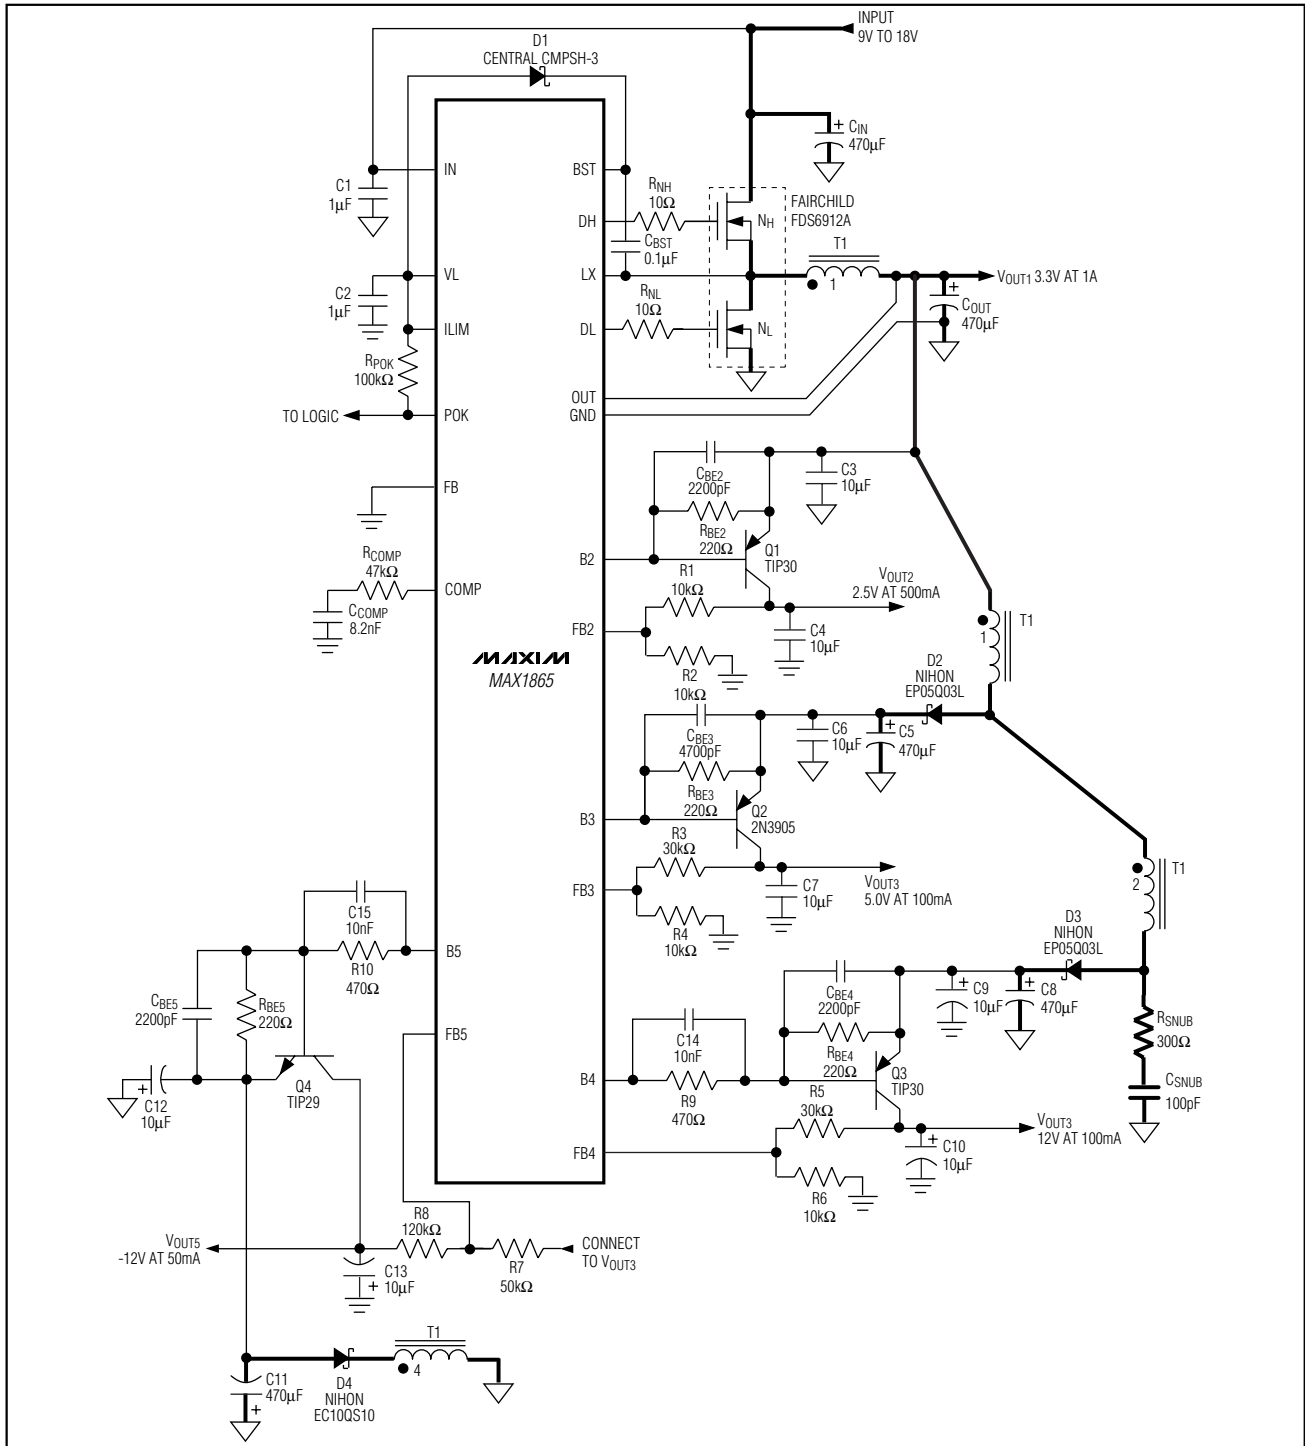

Figure 6. Standard MAX1865 Application Circuit
The MAX1864/MAX1865s' positive linear regulator output voltages are set by connecting a voltage-divider from the output to FB_- to GND (Figure 6). Select R_4 in the 5k Ω to 50k Ω range. Calculate R_3 with the following equation:
The MAX1865's negative output voltage is set by connecting a voltage-divider from the output to FB_5 to a positive voltage reference (Figure 6). Select R_6 in the 5k Ω to 50k Ω range. Calculate R_5 with the following equation:
In systems where the step-down controller's output is not the highest voltage, a transformer may be used to provide additional postregulated, high-voltage outputs. The transformer generates unregulated, high-voltage supplies that power the positive and negative linear regulators. These unregulated supply voltages must be high enough to keep the pass transistors from saturating. For positive output voltages, connect the transformer as shown in figure 6 where the minimum turns ratio (N) is determined by:
only), connect the transformer as shown in Figure 6, where the minimum turns ratio is determined by:
The MAX1864/MAX1865 use a current-mode control scheme that senses the current across the high-side MOSFET (NH). Immediately after the high-side MOSFET has turned on, the MAX1864/MAX1865 use a 60ns current-sense blanking period to minimize noise sensitivity. When the MOSFET turns on, however, the transformer's secondary inductance and the diode's parasitic capacitance form a resonant circuit that causes ringing. Reflected back through the transformer to the primary side, these oscillations across the high-side MOSFET may last longer than the blanking period. A series RC snubber circuit at the diode (Figure 6) increases the damping factor, allowing the ringing to settle quickly. Applications with multiple transformer windings require only one snubber circuit on the highest output voltage. Applications with low turn ratios (1:1), such as the MAX1864 typical application circuit (Figure 1), may not require a snubber circuit.
For the EC10QS10 Nihon diode used in figure 6, the capacitance is roughly 15pF. The output snubber must only dampen the ringing, so the initial turn-on spike that occurs during the blanking period remains preset. A 100pF capacitor works well in most applications; larger capacitance values require more charge, thereby increasing the power dissipation.
The snubber's time constant (t_{SNUB}) must be smaller than the 100ns blanking time. A typical RC time constant of approximately 30ns was chosen for Figure 6: